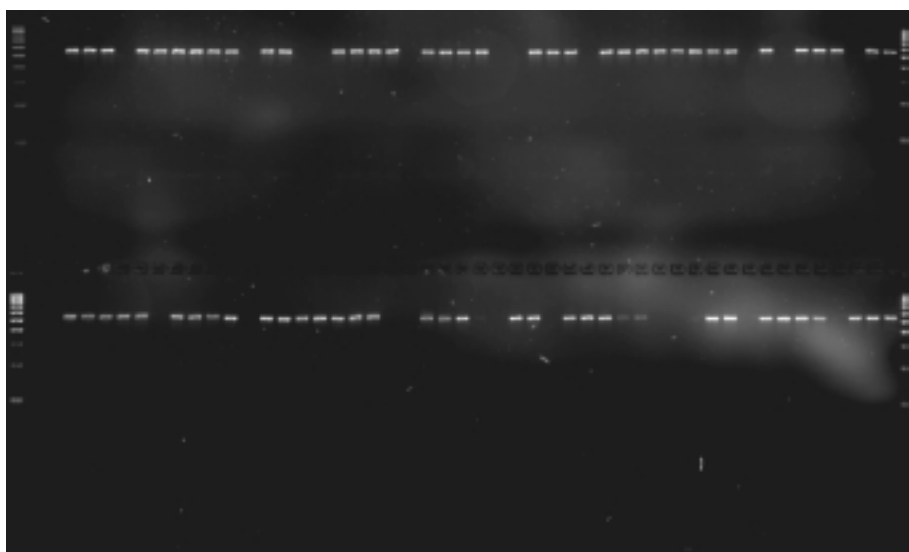

Fig. 1. A 102-well handcast 3% agarose gel with samples of 500 bp PCR products and 100 bp rulers in end lanes.
- When the gels were imaged, the background of the handcast gel was not uniform, suggesting that the ethidium bromide was not distributed uniformly, probably because of the high viscosity of a 3% agarose solution (Figure 1). However, no such unevenness was seen in the ReadyAgarose gels (Figure 2)